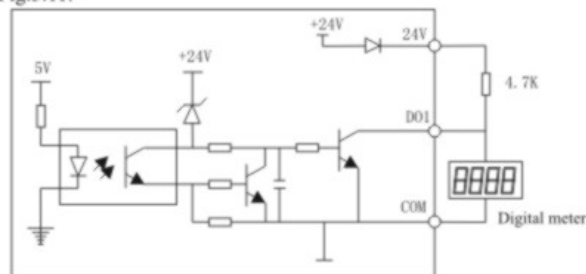

Fig. 3-11 Output terminal DO connection
2) Digital pulse frequency output DO is adaptable to frequency converter's power of 24V. The wiring method is shown in Fig.3.11.